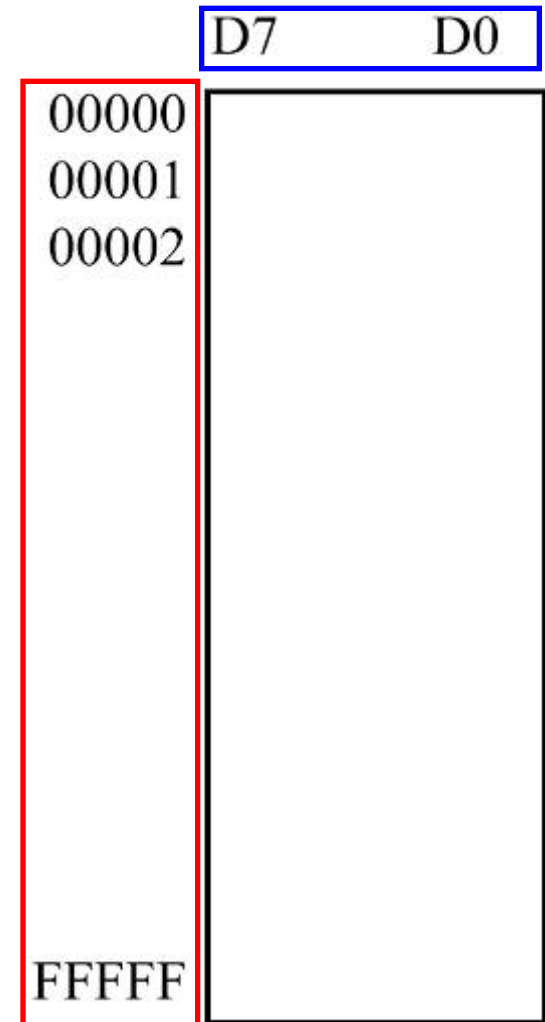

Fig. 9-19 Memory Byte Addressing in 8088 (8-Bit Data Bus)
- In Figure 9-19, the bus width for the data bus is **8 bits**.